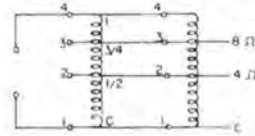

FIGURE 1
1. Parallel (Fig. 1) matches 70-volt, 260-watt line to 4 or 8 ohms.